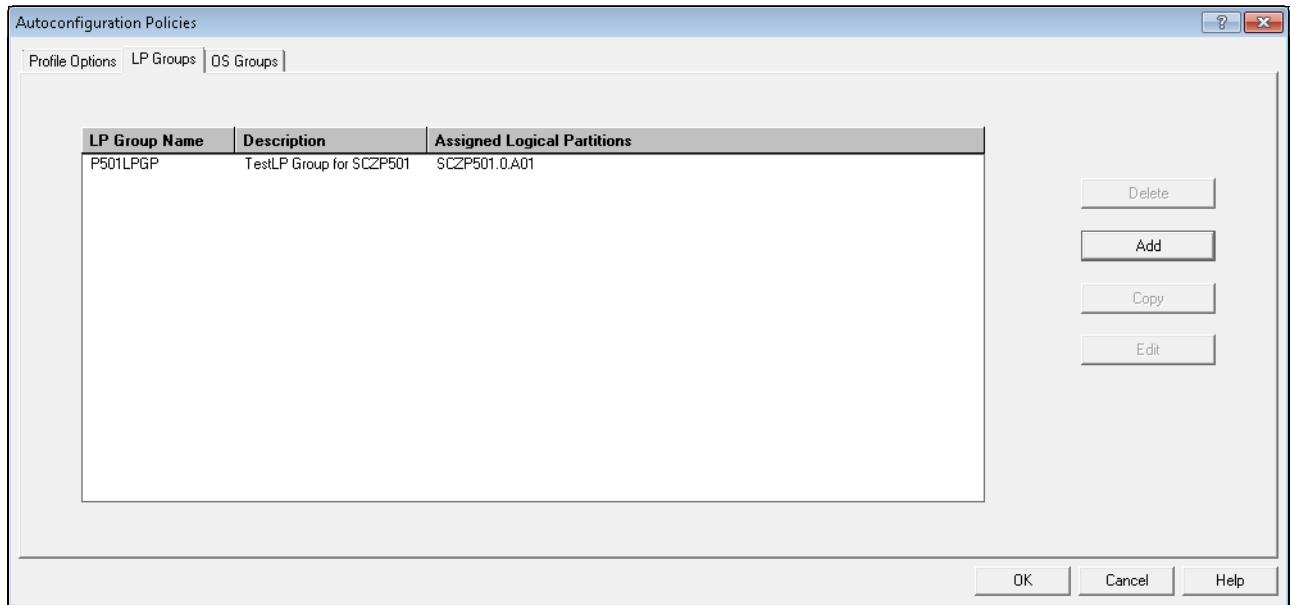

Figure 4-44 HCM - LP Groups: processor ID and partition now added to an LP Group
5. Click **OK** (Figure 4-44).